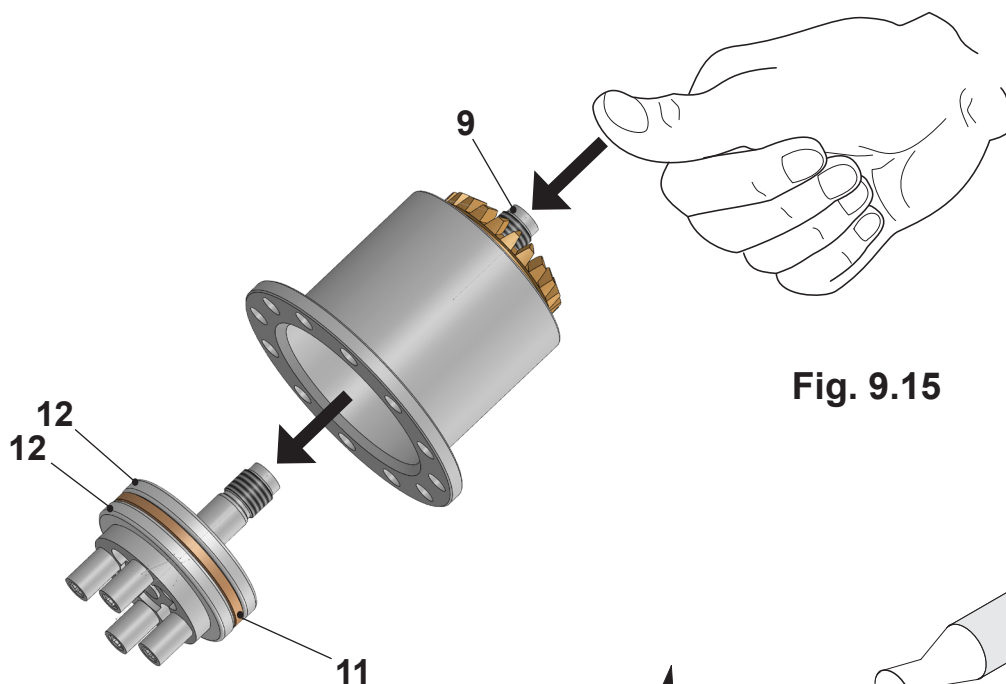

Fig. 9.15
- 9.4.6) Push the shaft pos.9 fig.9.15, the bearing made up of part pos.12 and parts pos.11 out of part 23.